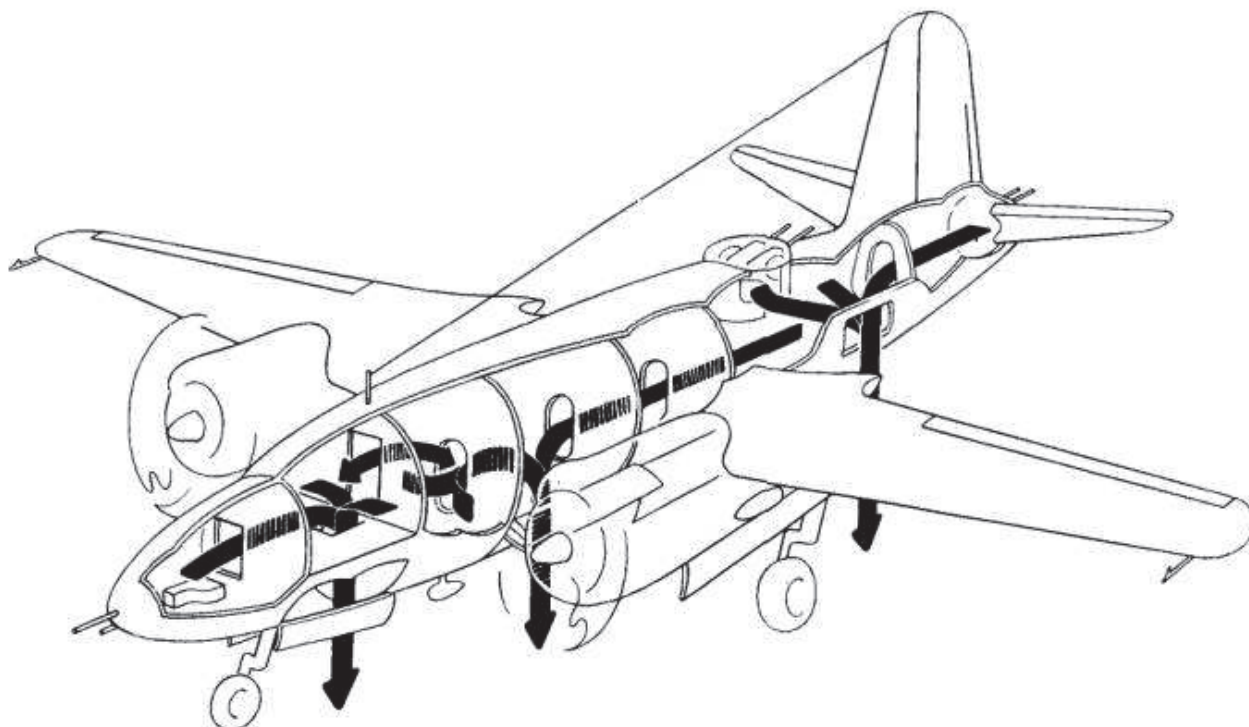

Figure 72 — Emergency Exits in Flight
c. EXIT FROM FORWARD COMPARTMENT. (See figure 72.) — The most direct exit from the pilot's or the bombardier's compartment is through the nose wheel well entrance hatch after the nose gear has been extended. Exit from the radio operator's and navigator's compartment is gained through the forward bomb bay doors which are opened from the bombardier's compartment with the bomb bay door selector handle or from the pilot's compartment with the emergency bomb release handle. The nose wheel
*d. EXIT FROM AFT COMPARTMENT.* (See figure 72.)— Either one of the two waist gun hatches or the aft bomb bay doors will furnish a safe